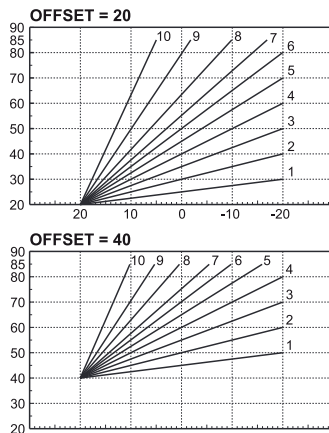

fig. 25 - Example of compensation parallel curve offset
- **Offset:** Enter this sub-menu to access curves parallel offset using "+" and "-" DHW side. Refer to fig. 25 - Example of compensation parallel curve offset for the characteristics.